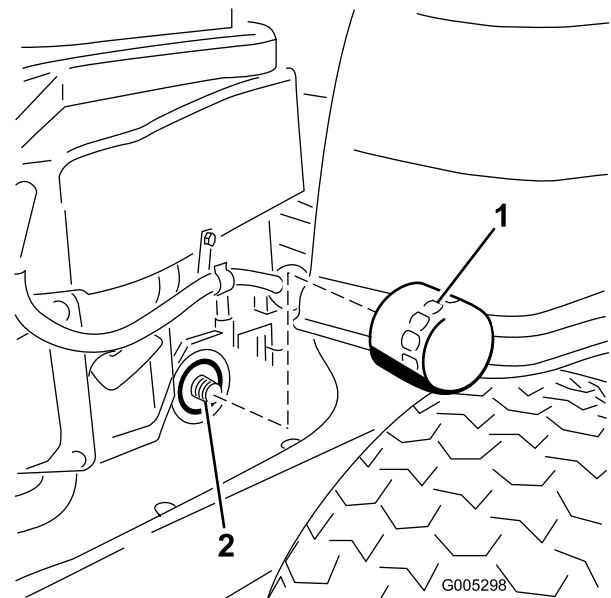

Figure 31
10. Locate the oil filter on the right side of the engine. Remove the old filter and wipe off the filter adapter with a clean cloth (Figure 31).
Turn the oil filter clockwise until the rubber gasket contacts the pad, then tighten the filter an additional 3/4 to 1 turn (Figure 31). Wipe up any excess oil on the frame.